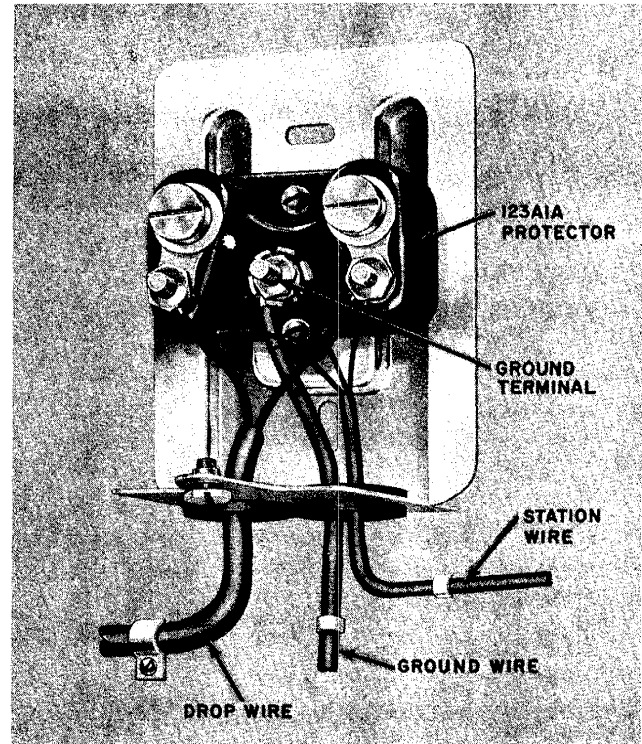

Fig. 11—305A2 Protector Mounting
**4.12** The 305A2 Protector Mounting is used to house the 123A1A or 128A1A-2 Protector at outside installations. Two screws are furnished with the protector mounting for fastening the protector to the back of the mounting. Two holes are provided in the back for attaching the protector mounting to its mounting surface. Fig. 11 illustrates a 123A1A Protector installed in a 305A2 Protector Mounting.